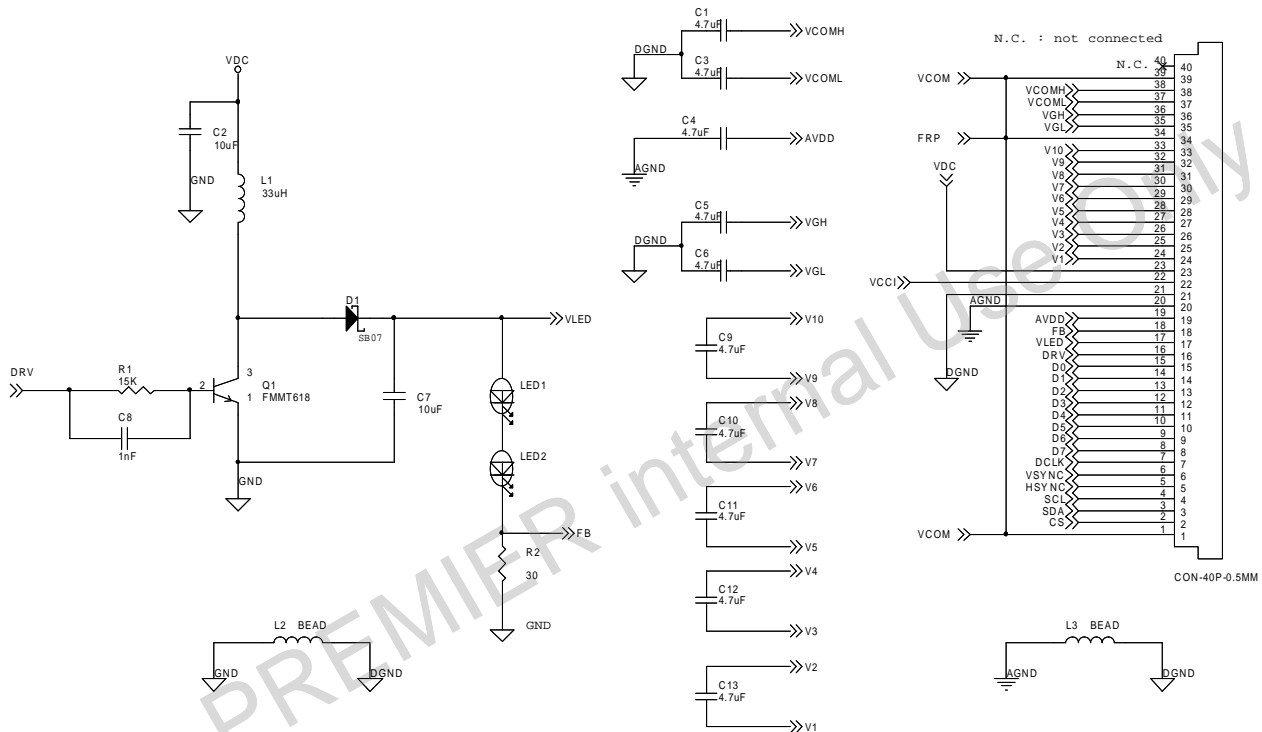

Fig.13 Typical Application Circuit
The integrated driver IC provides build-in LED booster controller, DC-DC charge pump, and Vcom driver. See Fig. 13 for the application circuit.
According to Fig. 13, the L1, Q1, D1, and C7 together form the LED boost converter. The converter with 0.75V feedback (FB) and R2 provide a constant 25mA current for LED backlight unit. The boost converter switching signal DRV is generated based on divided frequency of DCLK. Therefore the DCLK input is required for LED driver operation, and the absence of DCLK signal during normal operation will set the driver IC into standby mode. A low ESR capacitor for C7 is recommended in order to reduce voltage ripple of VLED. The build-in LED boost controller is default active, and it is able to be turned off by setting the register SHDB1 to low.